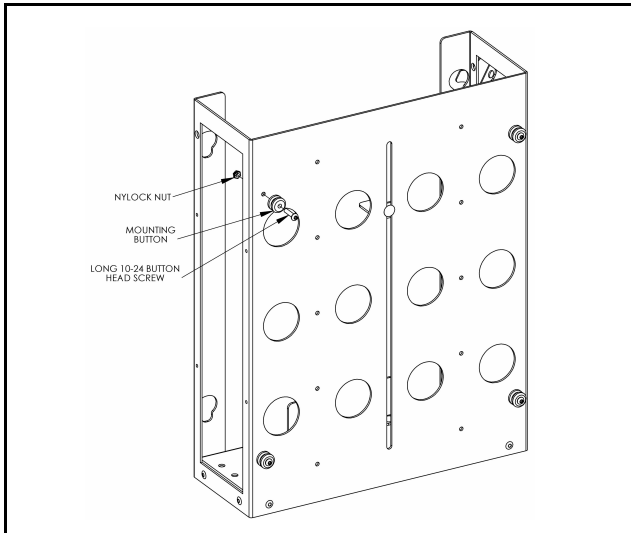

Figure 1
- Using a 10-24 button head cap screw (G) inserted from inside of bracket, secure mounting button (E), with chamfered hole of mounting button (larger surface) facing bracket, to bracket. Repeat with other three mounting buttons. (See Figures 1 & 2)